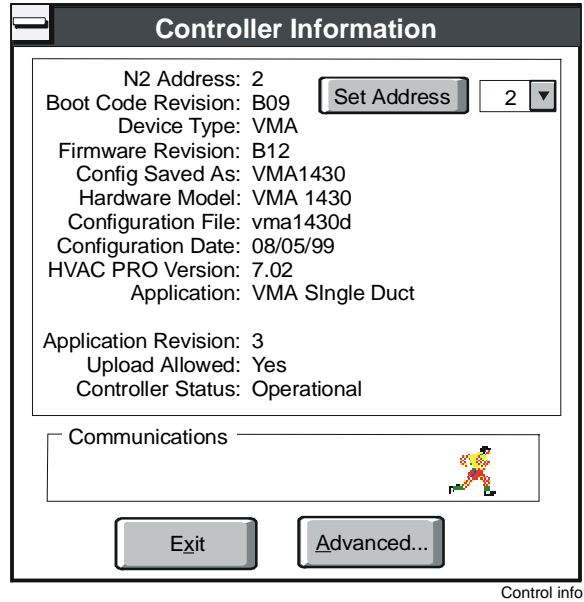
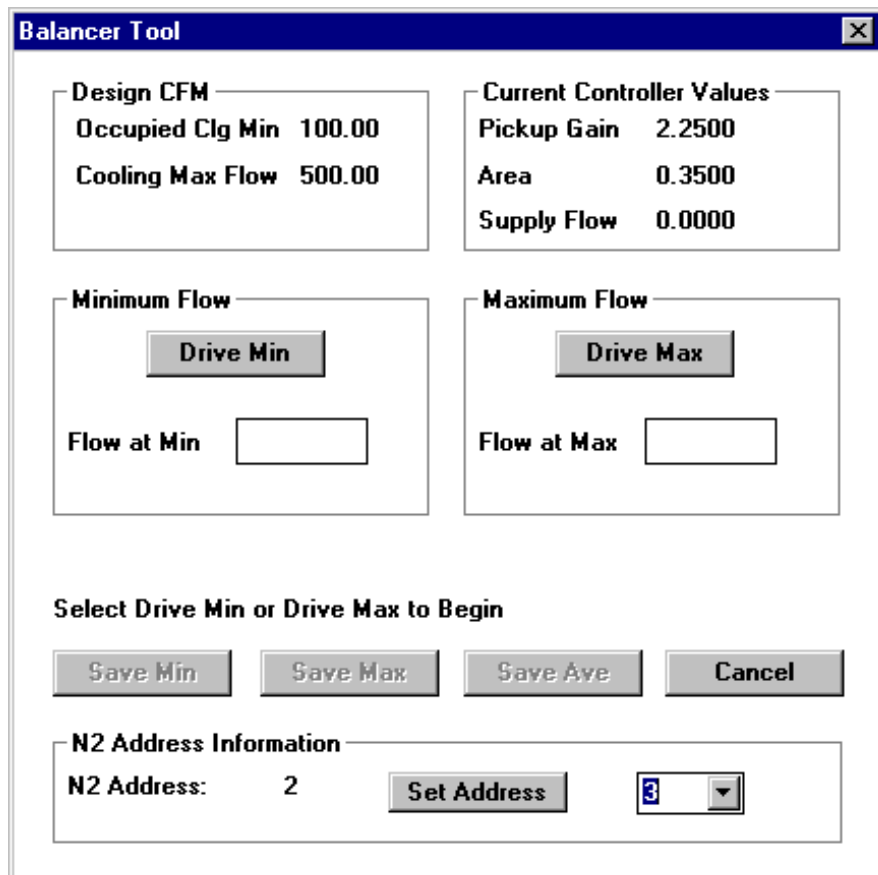

Figure 15-5: Controller Information Window Example - VMA
Figure 15-22: Balancer Tool Dialog Box
The information listed in the dialog box is dependent on the connected device type. Figure 15-5 shows a typical Controller Information dialog box for a VMA1400 Series controller.
3. Program each address through the Zone Bus using a laptop, CablePRO or CVTPRO, and HVAC PRO Release 8.01 or later. In HVAC PRO software, set the address using either the Controller Information dialog box (Figure 15-5) or the Balancer Tool dialog box (Figure 15-22).
2. Verify the communications settings and click OK. HVAC PRO software displays the Balancer Tool dialog box as shown in Figure 15-22.
To determine the pickup gain for the average of the minimum and maximum flow, perform both the minimum and maximum flow tests as described above. When both tests are complete, the Balancer Tool calculates and displays the average pickup gain, and the Save Ave button is enabled as shown in Figure 15-22.